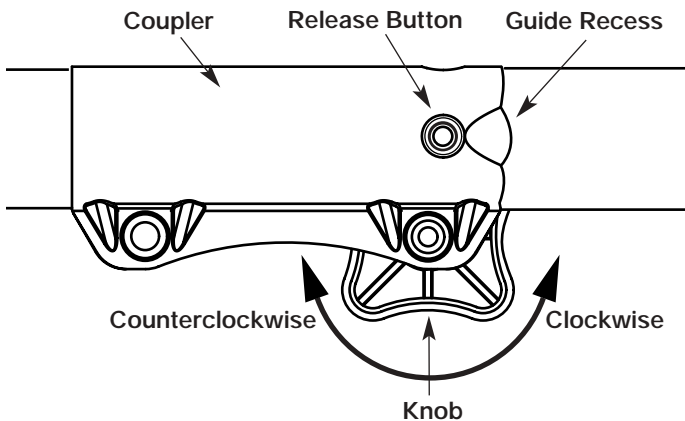

Fig. 5
1. Turn the knob counterclockwise to loosen (Fig. 5).
2. Press and hold the release button (Fig. 5).
2. Turn knob counterclockwise to loosen (Fig. 5).
NOTE: Aligning the release button with the guide recess will help installation (Fig. 5).